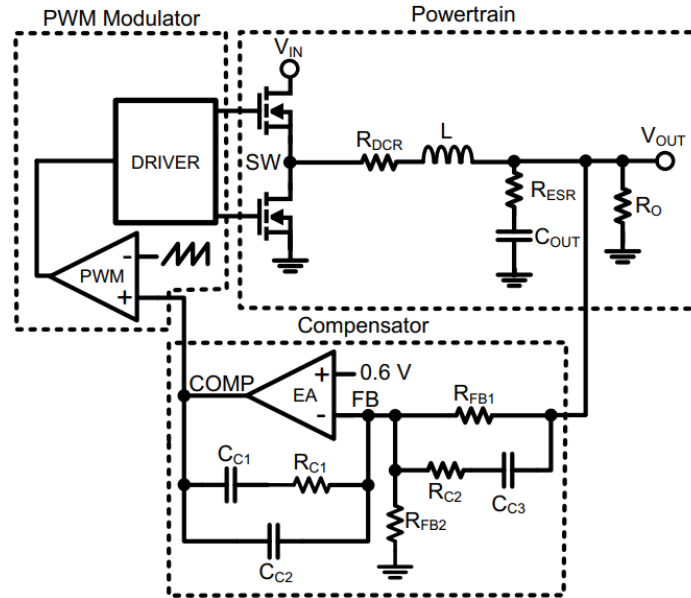

Figure 35. Control Loop Schematic Diagram
The power train consists of the filter inductor (L) with DCR (R_{DCR}), output capacitor (C_{OUT}) with ESR (effective series resistance R_{ESR}), and effective load resistance (R_O). The error amplifier (EA) regulates the feedback (FB) voltage to 0.6V. The passive compensation components around the error amplifier establish system stability. Type-III compensation is shown in Figure 35. The PWM modulator establishes the duty cycle command by comparing the error amplifier output (COMP) with an internally generated ramp set at the switching frequency.